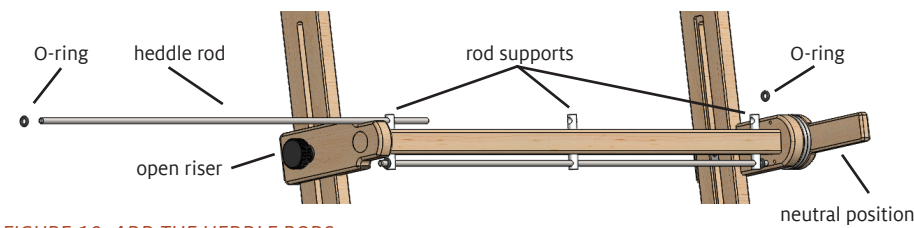

FIGURE 10: ADD THE HEDDLE RODS
**10.** Add metal heddle rods to the shedding device (Figure 10): You can complete this step when you install the Texsolv heddles. Set the handle in neutral position, parallel to the risers. From the open riser side, slide a heddle rod through all three rod supports and secure each end with a rubber O-ring. Repeat for the second heddle rod.